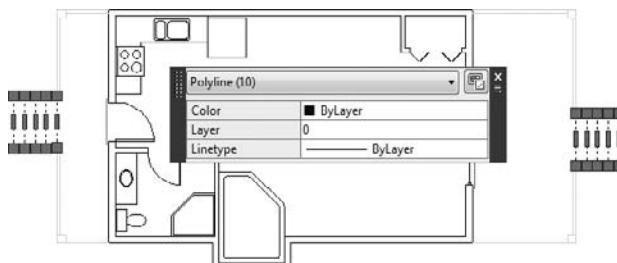

FIGURE 6.21 The Quick Properties panel
3. Click the Quick Properties button in the status bar. The Quick Properties panel opens in the drawing, as shown in Figure 6.21.